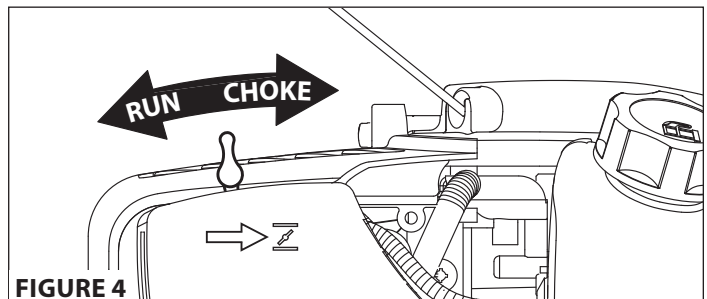

FIGURE 4
1. Move choke lever to **CHOKE** position. **SEE FIGURE 4**
NOTE: Half choke is defined when the choke lever is between CHOKE and RUN positions. SEE FIGURE 4
6. Move choke lever to **RUN** position and squeeze throttle to desired speed. **SEE FIGURE 4**